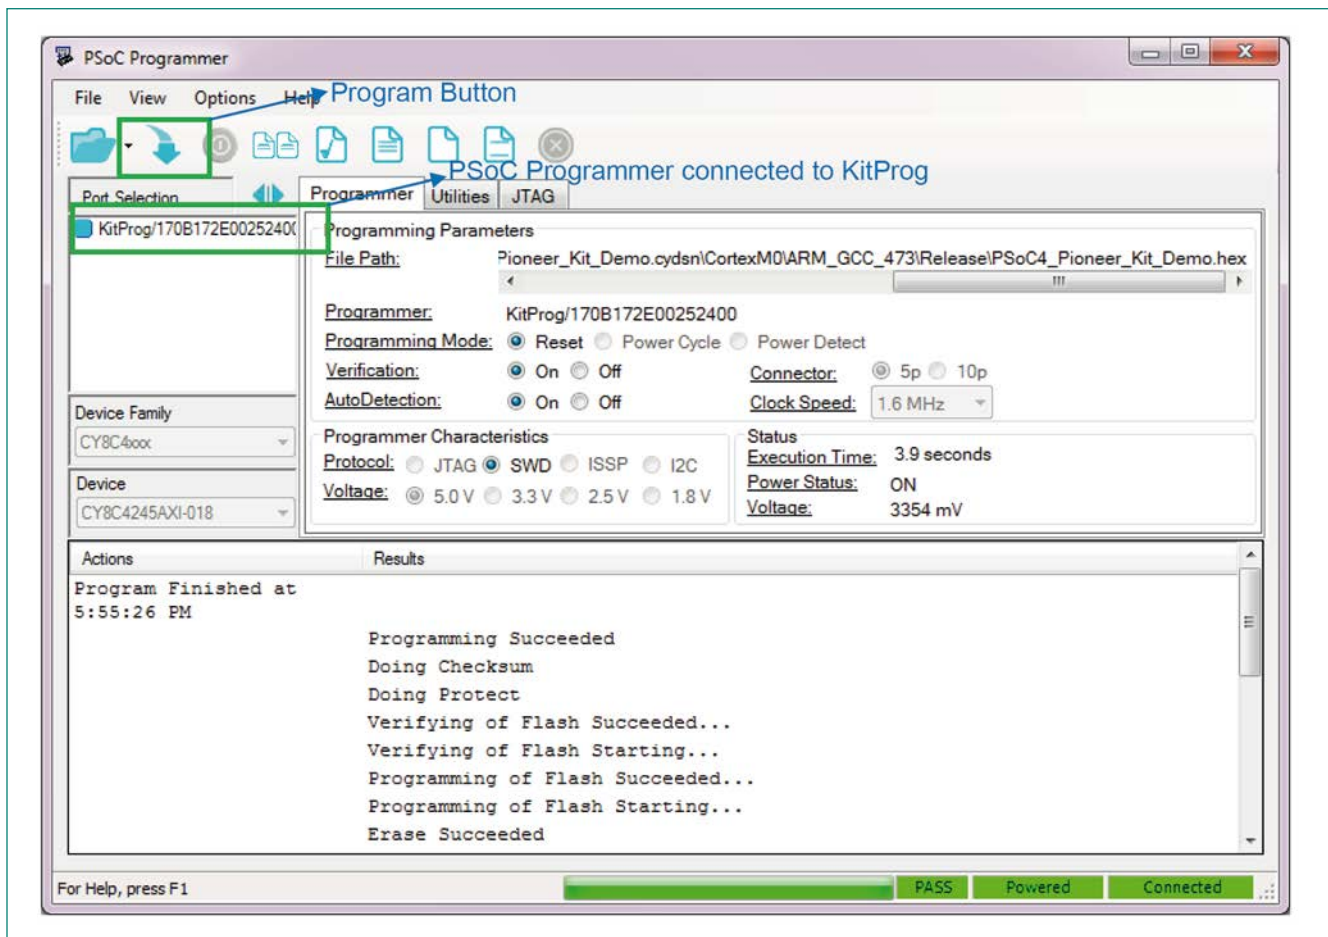

Figure 5-20 Programming the PSoC4 Pioneer Kit Using PSoC Programmer
10. Make sure that PSoC Programmer is connected to KitProg as shown in Figure 5-20. Click on the Program button to program the PSoC4 Pioneer Kit with the given hex file, as shown in Figure 5-20.